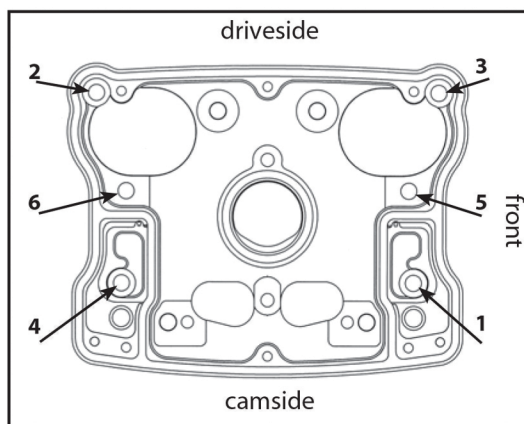

Figure 2-
2. Install four remaining rocker housing screws. Gradually tighten six screws to 15-18 ft-lbs. using sequence illustrated in **Figure 2**.